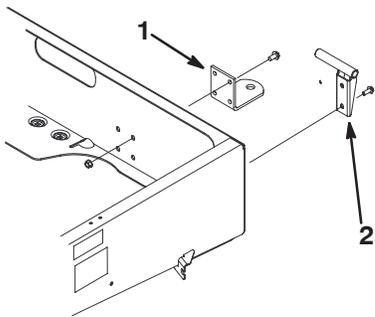

Figure 7
2. Align the hitch with the mounting holes on the frame. Secure the hitch with the screws and nuts (Fig. 7).
2. Mount the left hand pivot bracket to the left rear corner of the frame with 2 flange head screws (3/8 x 1 inch). Torque the screws to 16 ft-lb (22 N·m). (Position the bracket as shown in Figure 7.